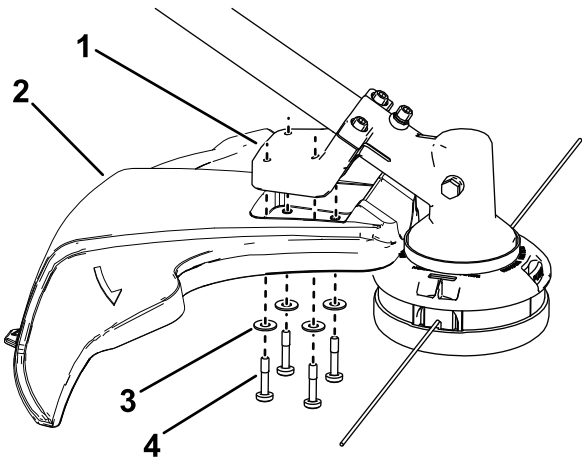

Figure 6
1. Align the trimmer guard beneath the guard mount as shown in Figure 6.
2. Secure the guard to the trimmer using the 4 washers and 4 bolts as shown in Figure 6.